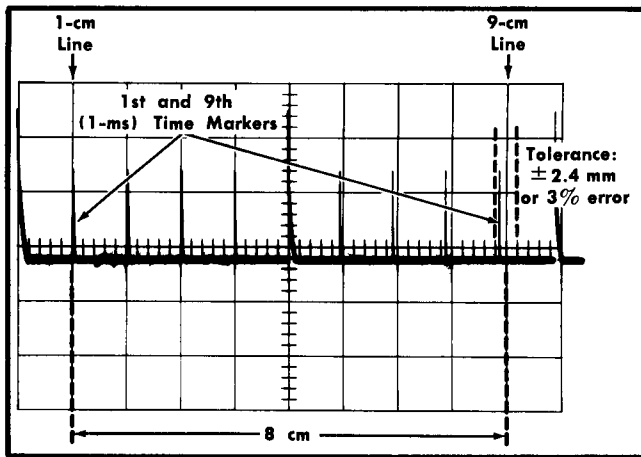

Fig. 5-2. Determining sweep rate accuracy.
- b. Check—A sweep timing as indicated in Table 5-1. Timing checked within the center 8 cm of the graticule area and must be within $\pm 3\%$. See Fig. 5-2.